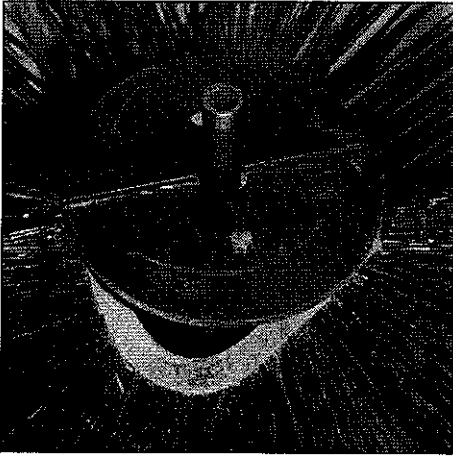

figure 25
6. Loosen screws on the retainer plate and take off the retainer halves (figure 25).